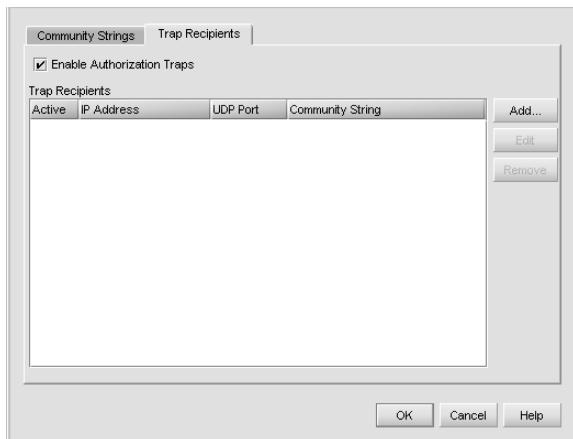

Figure 31 SNMP Agent Setup dialog box
Figure 31 shows the dialog box used to configure the SNMP agent.
The SNMP Agent Setup dialog box opens (Figure 31).
- The SNMP Agent Setup dialog box opens (Figure 31 on page 68).